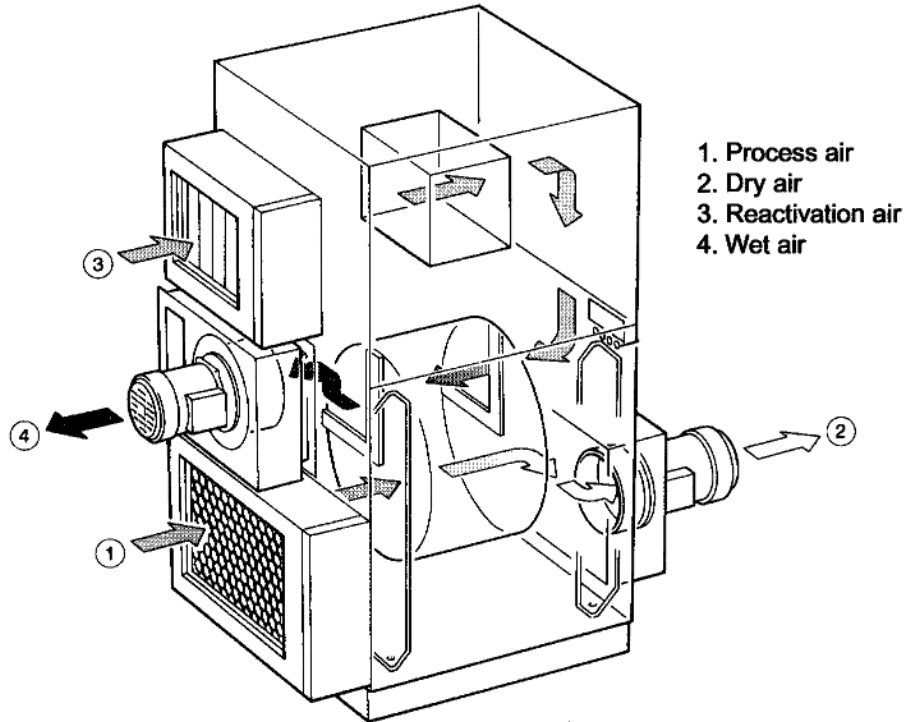

Figure 1-1. Airflow overview
The desiccant rotor is the moisture absorbing part of the dehumidifier. The rotor is divided into two sectors comprising the Process Sector (270°) and the Reactivation Sector (90°). The air to be dehumidified (Process Air) is drawn through the process sector of the rotor, whose structure forms narrow air flutes. The walls of the rotor include High Performance Silica Gel (S) or Lithium Chloride (L) which absorbs the moisture from the air, and the resulting dry air is delivered at the dry air outlet. Refer to *figure 1-1*.
A separate airflow (Reactivation Air) is heated and drawn through the reactivation sector of the rotor. This heated air evaporates the moisture from the reactivation sector of the rotor. The moisture laden air (Wet Air) is then vented outside the humidity controlled atmosphere. Refer to *figure 1-1*.